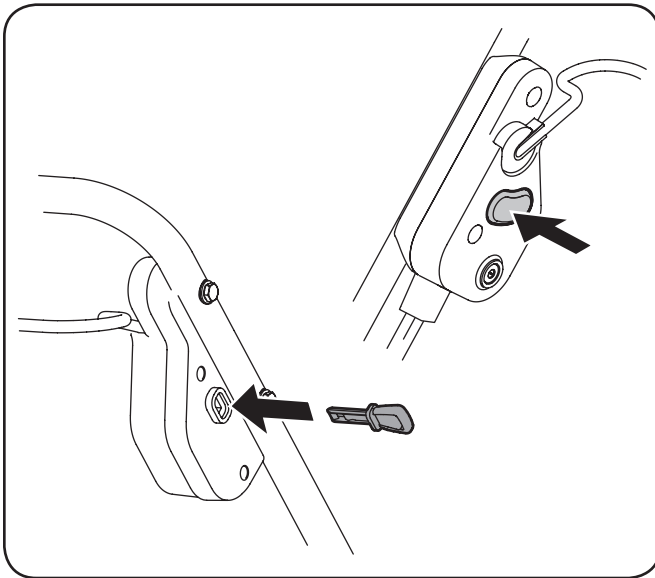

Figure 5-1
2. Insert key. Refer to Fig. 5-1.
4. Press the red starter button and hold it in. See Fig. 5-1.